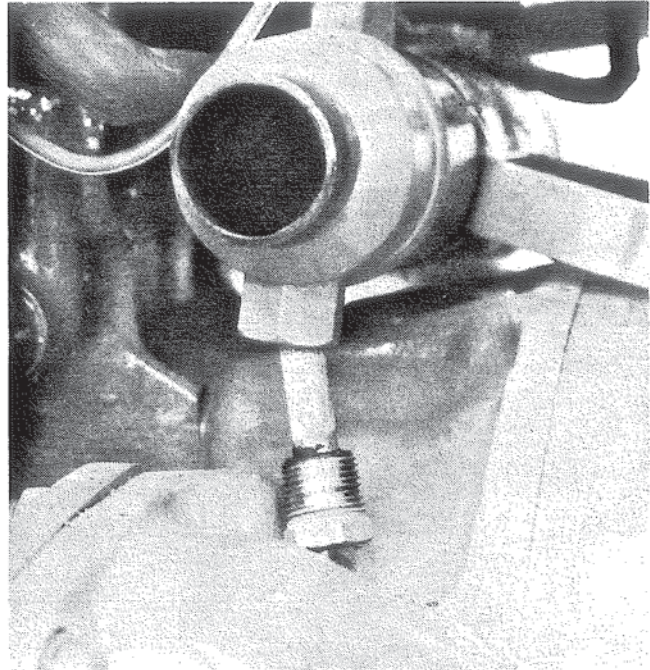

Figure 29. Inspecting Sacrificial Anode.
3. Inspect sacrificial anode, replace if eroded. Figure 29.